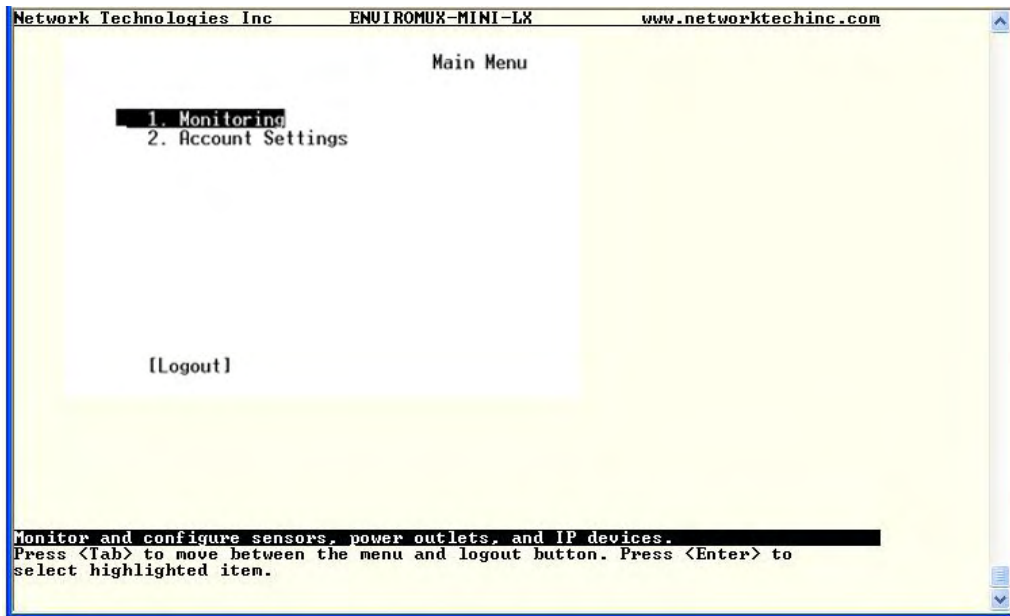

Figure 48- Text Menu- User Main Menu
- To move from menu list to action key (such as “Logout” in Figure 48 above), press <Tab>.